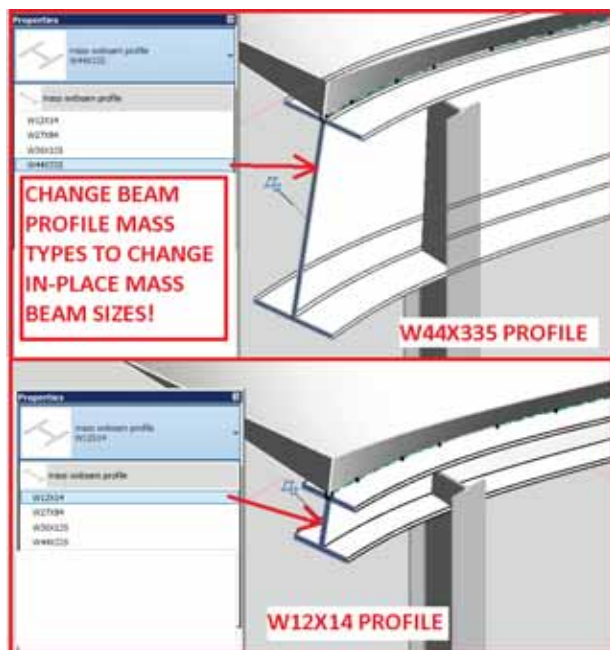

Figure 10 - Flexing the Different Beam Profiles In-Place Mass Family Beam
3. The final beam should look like Figure 10.
4. Now flex the different family types and you will see the beam size change instantly as shown in Figure 10. Pretty cool!